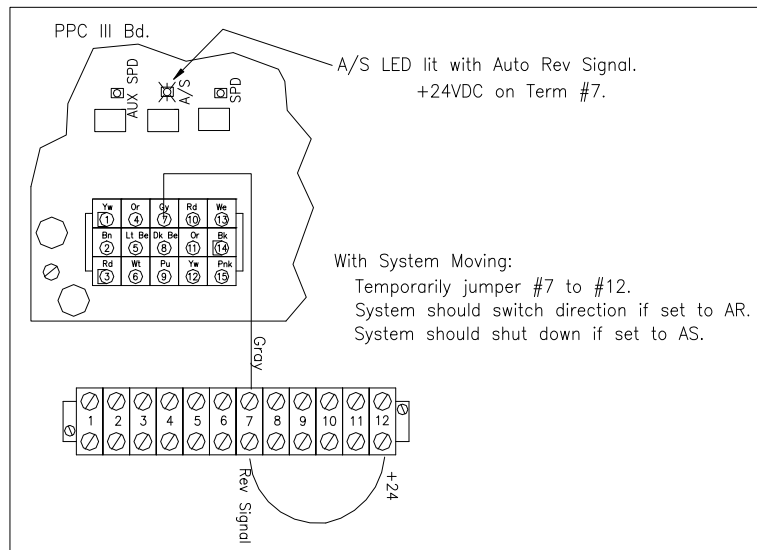

Figure 83. Check Reversing Operation in Precision Point Control III Panel.
- Trace the Reversing Signal from the Reversing Switch to the Control Panel. The Auto Reverse or Auto Stop function of the Precision Point Control III Panel can be checked by using a jumper wire in the control panel as shown in Figure 83.